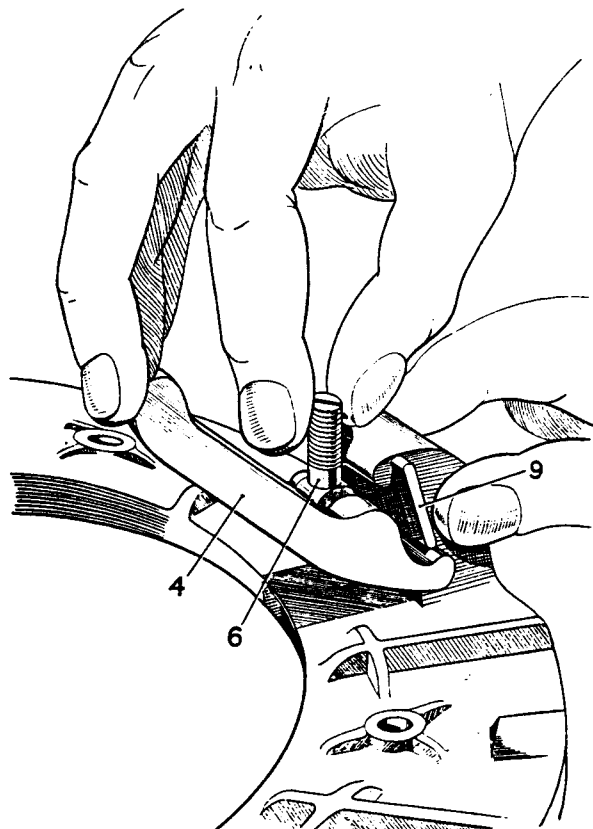

FIG. 4
in position in the lever. Lift the strut (9) over the ridge on the lever and remove the eyebolt from the pressure plate (Fig. 4).